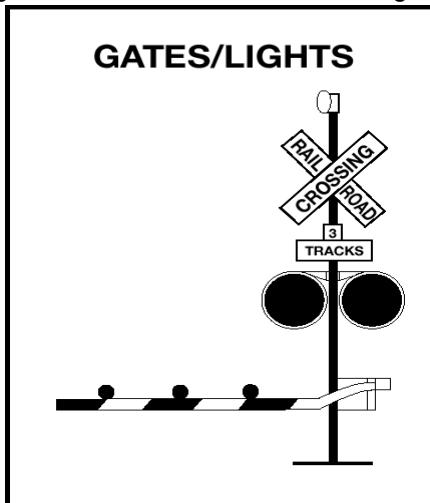

Figure 2.18
**Flashing Red Light Signals.** At many highway-rail grade crossings, the cross-buck sign has flashing red lights and bells. When the lights begin to flash, stop! A train or other on-track equipment is approaching and you are required to yield the right-of-way to them. If there is more than one track, make sure all tracks are clear before crossing. See Figure 2.18.
**Gates.** Many railroad-highway crossings have gates with flashing red lights and bells. Stop when the lights begin to flash and before the gate lowers across the road lane. Remain stopped until the gates go up and the lights have stopped flashing. Proceed when it is safe. See Figure 2.18.